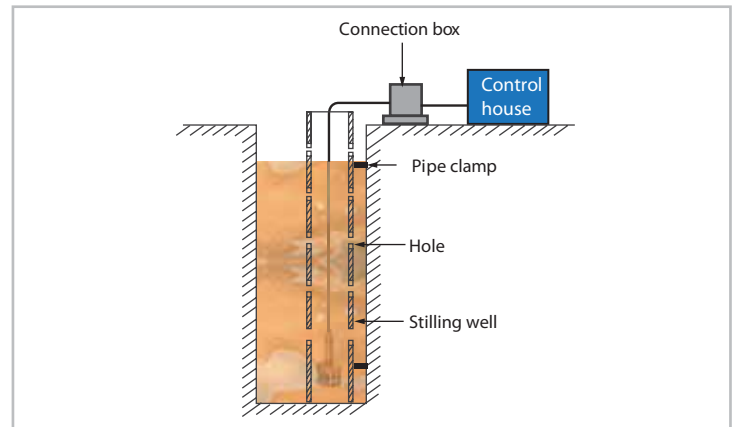

Fig. 3. Stilling well protection
- While pumping the liquid, the transmitter should be uninstalled from the tank or it should be protected by a stilling well as shown in Fig. 3.